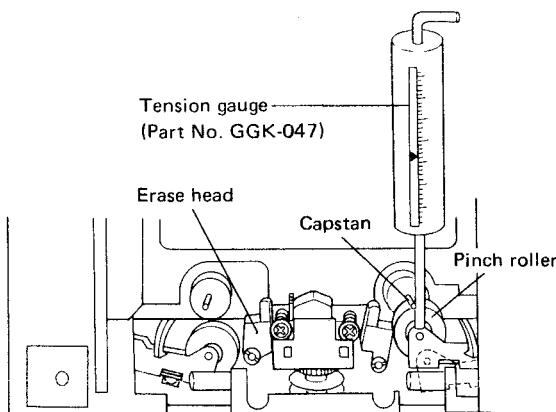

Fig. 12-1 Pinch roller pressure adjustment
- Using a tension gauge as shown in Fig. 12-1, gently press against the pinch roller arm. The tension gauge reading should lie between 250g and 400g at the moment that the pinch roller is separated from the capstan, and the capstan stops rotating.